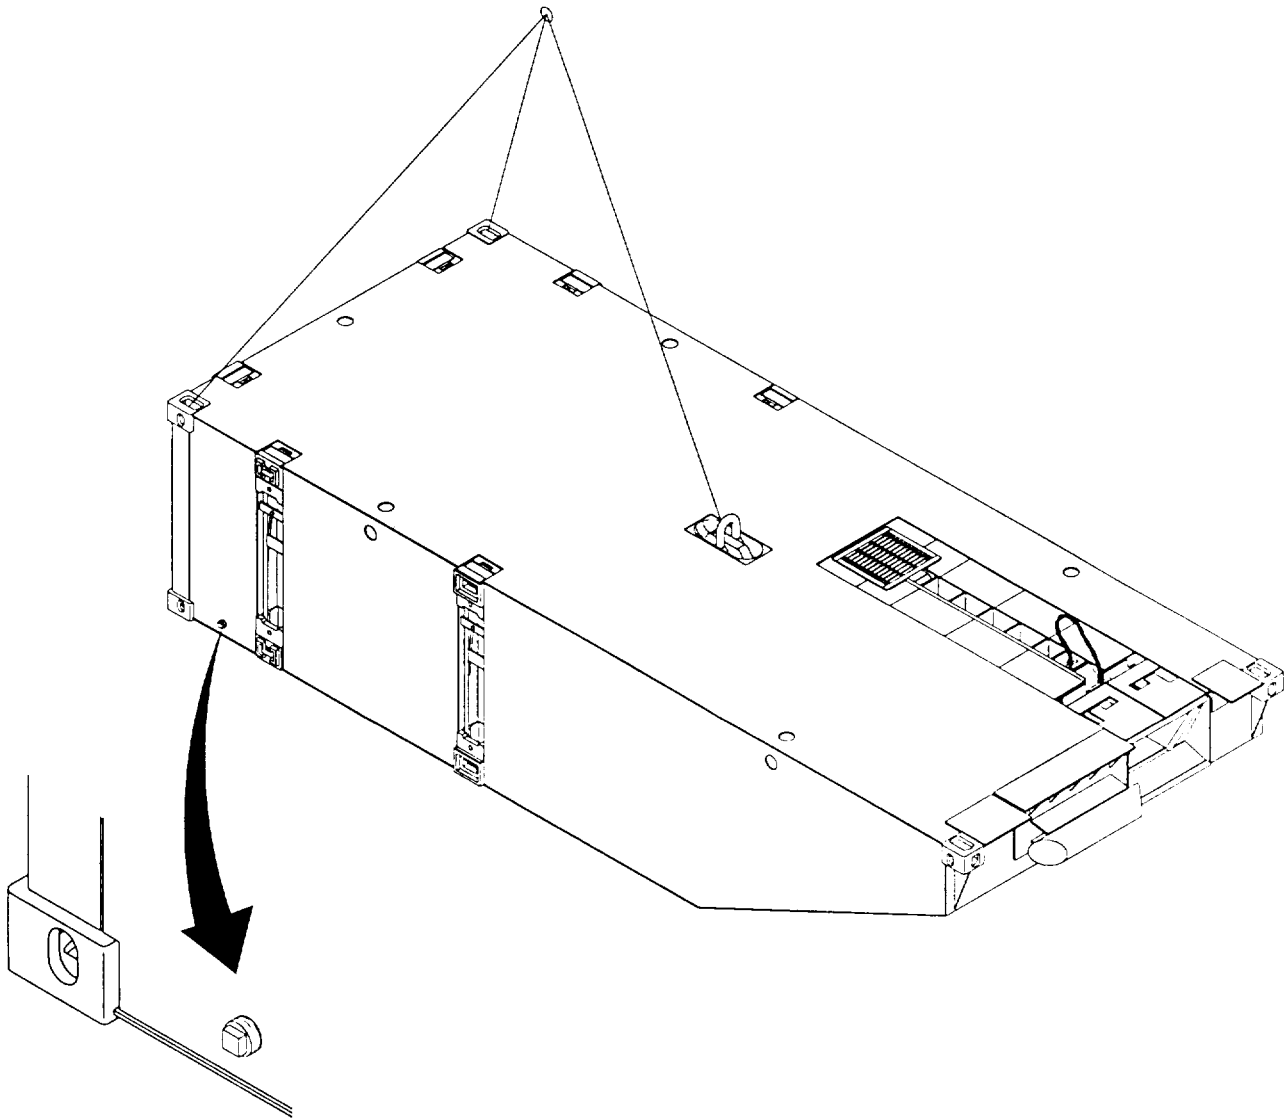

Figure 2-26. Lifting MCF End Rakes.
- The End Rake utilizes a three-leg bridle with a 1-1/4 inch x 4 inch x 8 inch master link. Center leg: 3/4 inch diameter 6 x 37 IWRC wire rope with thimbles both ends (Figure 2-26). The leg is 6 foot pull to pull with one 11 ton eye hook at the load end.